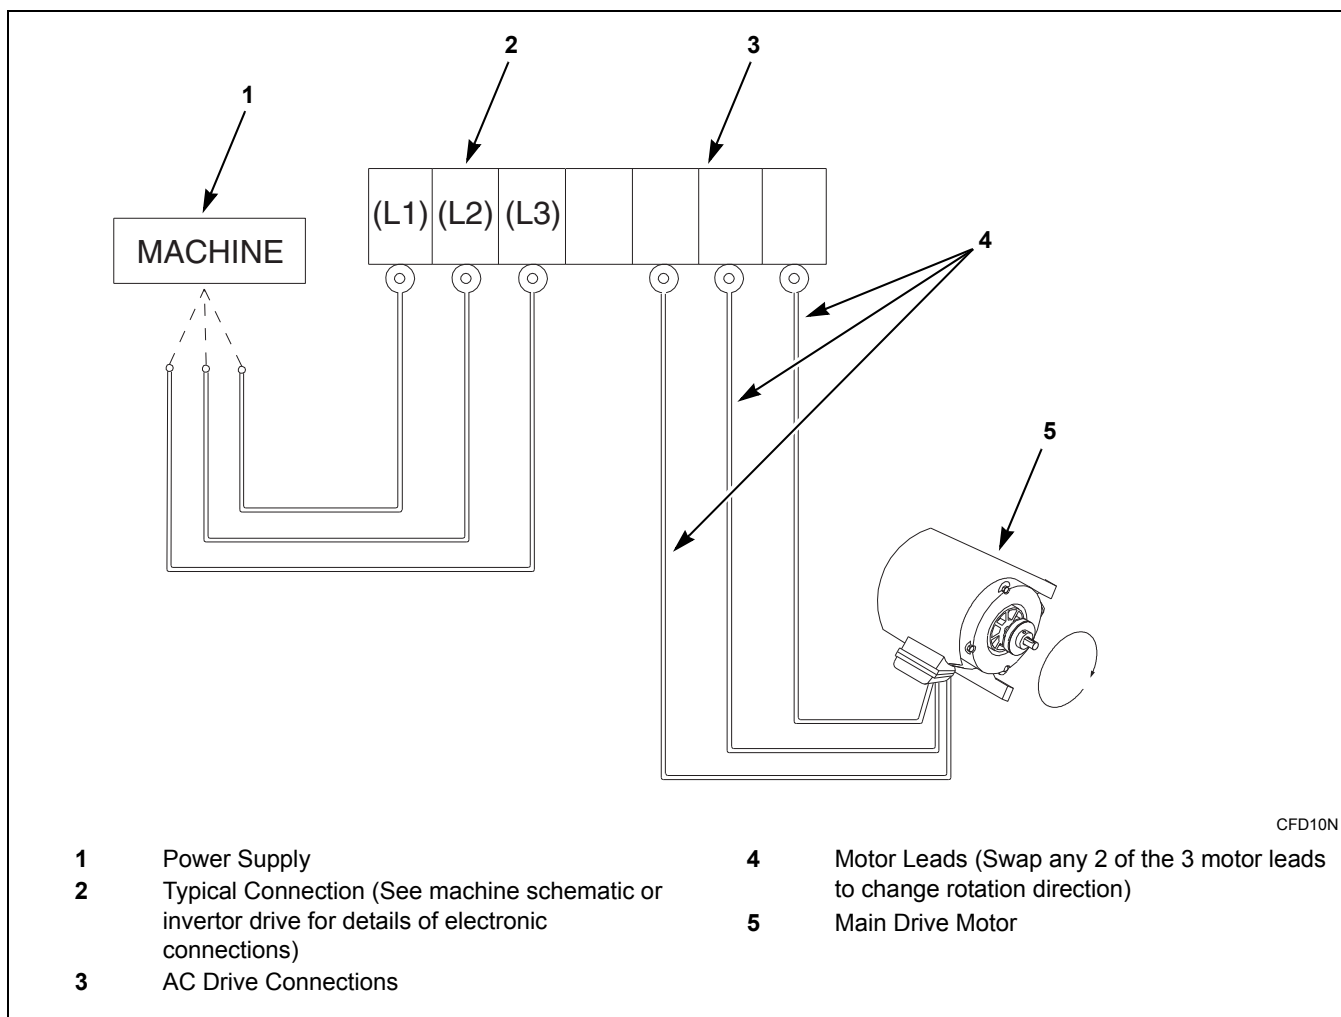

Figure 46
8. Cylinder rotation must be clockwise in an extract step for all models. If rotation is not correct, disconnect power. A qualified electrician must reverse any two motor leads between the AC drive and the main drive motor. Refer to *Figure 46*.